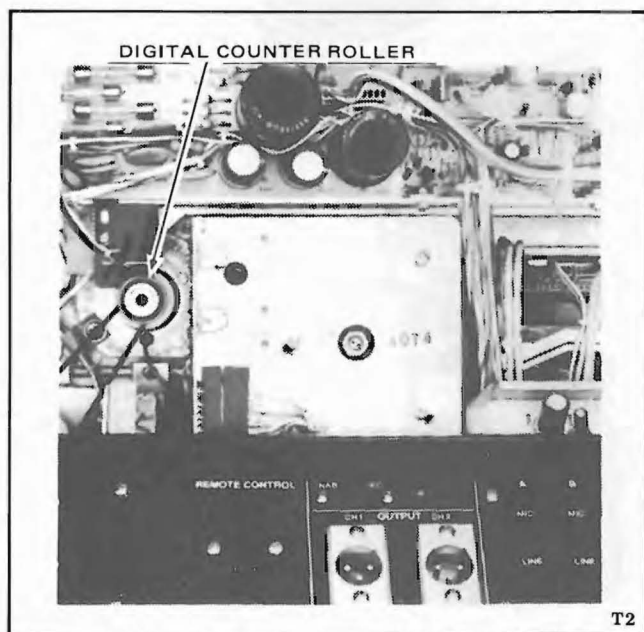
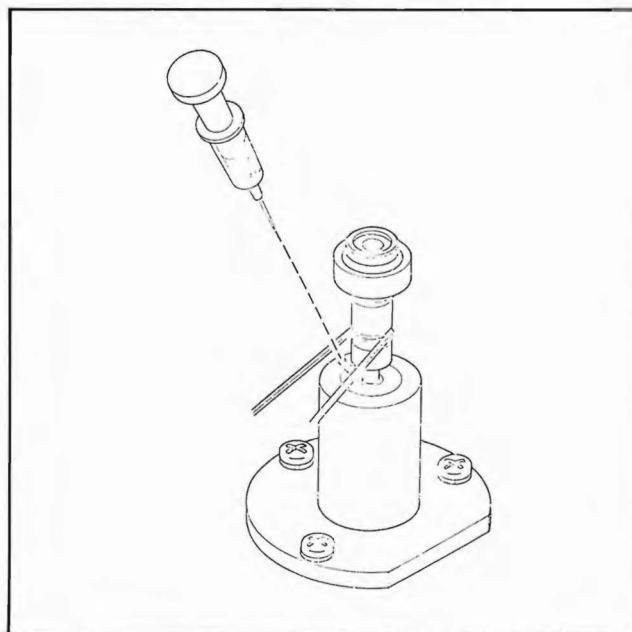

Figure 5-2. Digital Counter Roller Location
Figure 5-3. Digital Counter Roller Lubrication
2. Locate the digital counter roller below the takeup motor (see Figure 5-2) and apply one or two drops of light oil as shown in Figure 5-3.